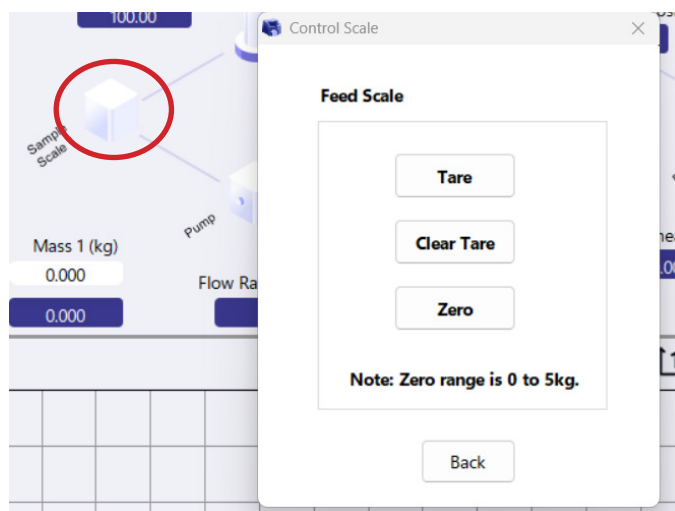

Figure 10. Scale icon and popup menu.
1. Tare the scales with appropriate empty containers in place. You can access the scale controls by clicking on the scale icon in the process control section of the interface (Figure 10).